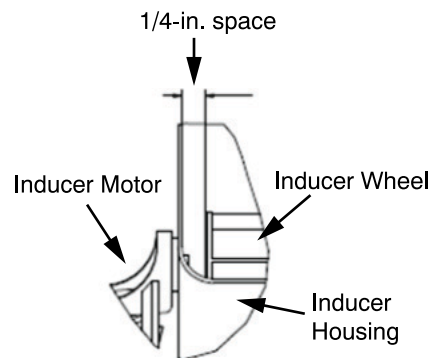

Fig. 14 – Inducer Wheel Spacing Position
17. If only the inducer wheel or motor is being replaced, refer to Fig. 14 for proper spacing between inducer housing and inducer wheel. Not following this could result in the inducer wheel hitting the housing or vestibule plate.